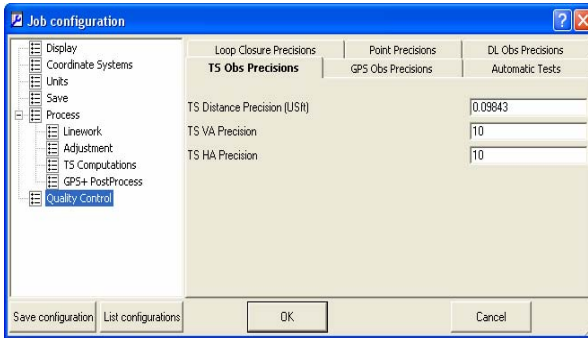

Figure 2-32. Job Configuration – TS Obs Precisions
- The *TS Obs Precisions* tab sets precision for a distance and horizontal/vertical angle of TS observations (Figure 2-32 on page 2-23). If the values of the distance/horizontal/vertical residuals from a net adjustment—with Rejection Criterion-By Control—are worse than the values set in this tab, the observations are highlighted in red on the *TS Obs* tab, Map view,